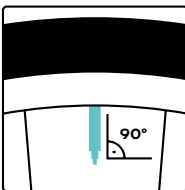

Fig. 6
- Carefully insert the tube and align the valve vertically (Fig. 6).